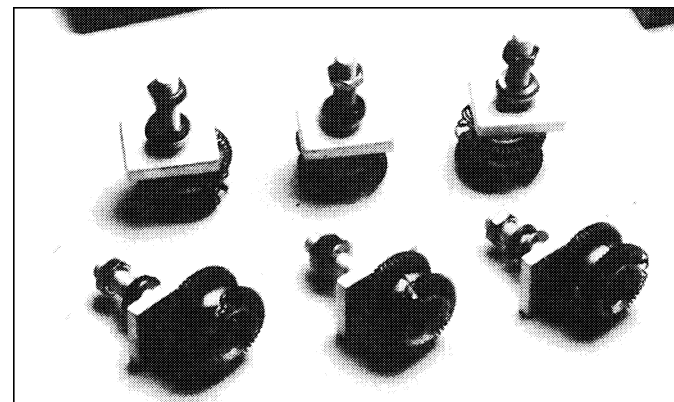

Fig. 1-4. Closeup of Tulips Showing Center and Offset Mountings
1. Note that 4 tulips are offset mounted on their pads and 2 tulips are centered (Figure 1-4).